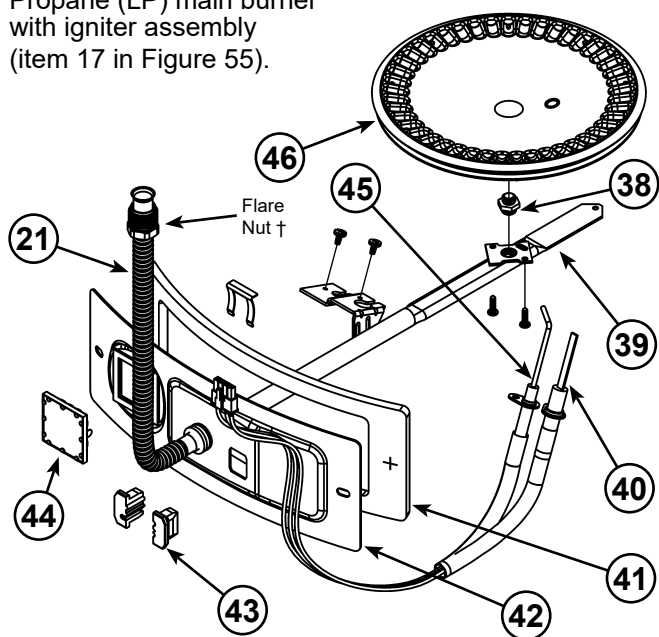

Figure 58.
- 46 Stainless Steel Burner (see Figure 4) (see also **Figure 58**)